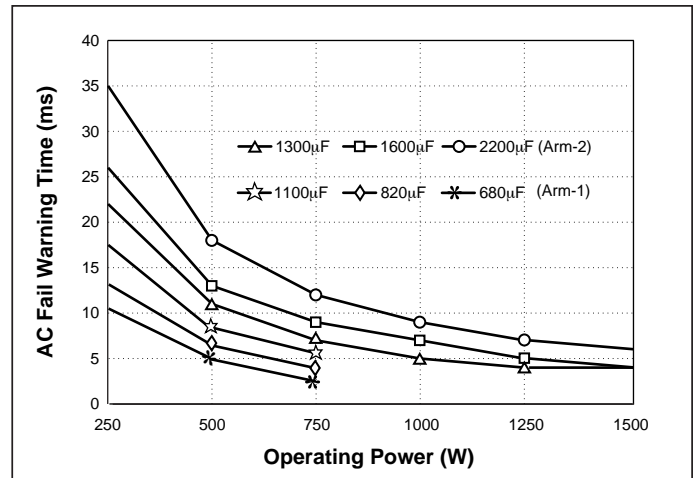

Figure 13—Hold-up time vs. operating power and total bus capacitance, series combination of  $C1$ ,  $C2$  (Fig. 8)
Calculated values of bus capacitance for various hold-up time, ride-through time, and ripple voltage requirements are given as a function of operating power level in Figures 13, 14, and 15, respectively.
**Determining Required Hold-up Capacitance.** Fig. 13 is used to determine hold-up capacitance for a given hold-up time and power level, and shows that the total bus capacitance must be at least 820μF. Since two capacitors are used in series, each capacitor must be at least 1,640μF. Note that hold-up time is not dependent on line voltage.